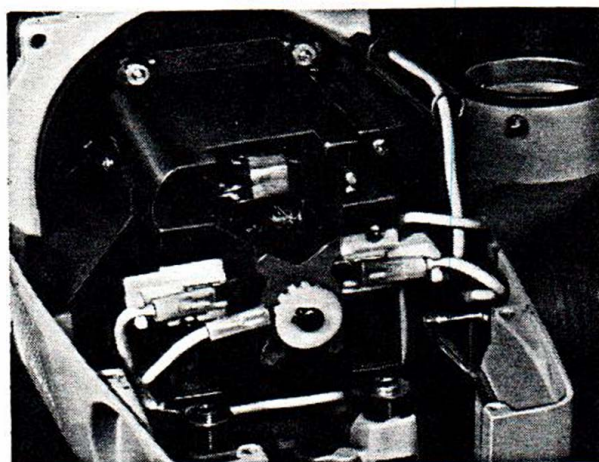

Figure 12. Motor Unit Assembly Removal (Top)
- C. Turn the assembled portions of the power unit over as shown in Figure 12.